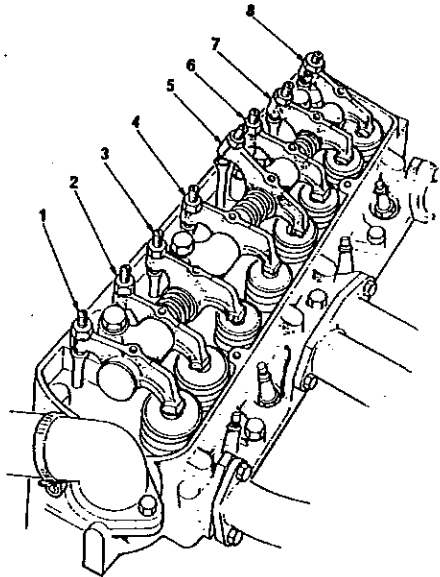

Fig. 25. Valve Numbers
4. Turn engine over until valves 1 (exhaust) and 6 (inlet) are open (fig. 25). Adjust No. 3 (inlet) to 0.012 in. (0.31 mm) and No. 8 (exhaust) to 0.022 in. (0.58 mm).